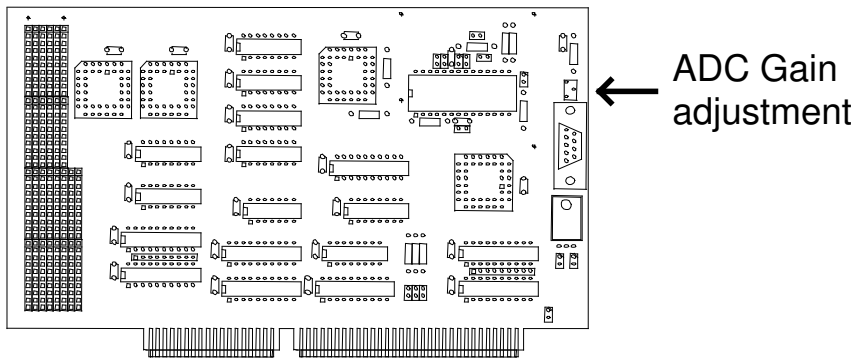

Fig. 4: Location of the ADC gain adjustment potentiometer
4. The gain setting of the analog-to-digital converter on the Accumulating Framegrabber (see fig. 4).